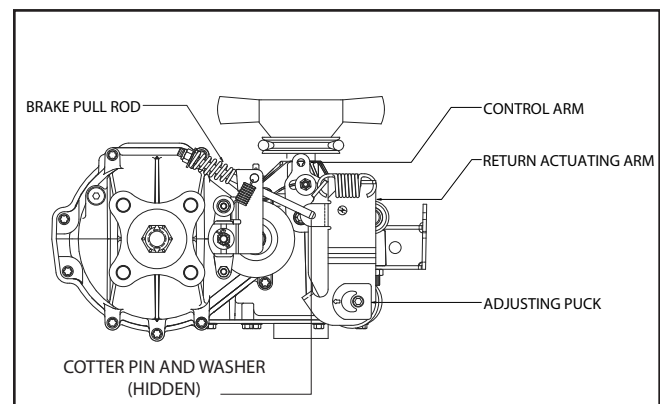

Figure 4. Return to Neutral, Hand Control
2. Remove the Original Equipment Manufacturer's (OEM's) control linkage at the control arm. Refer to Figure 4.
3. Remove the cotter pin and washer securing the brake pull rod to the return actuating arm. Remove the brake pull rod from the return actuating arm. Refer to Figure 4.
6. Stop the vehicle engine. Adjust the OEM linkage according to the OEM manual. Re-check according to step 4 and 5. Stop the vehicle engine. Replace the brake pull rod onto the return actuating arm. Install the washer and a new cotter pin securing the brake pull rod to the actuating arm. Refer to Figure 4.
7. Note the axle directional movement. Stop the vehicle's engine. Loosen the adjusting puck screw until the puck can be rotated. Rotate the adjusting puck the opposite direction of the wheel rotation on the control linkage side in 5 degree increments. Tighten the adjusting puck screw. Refer to Table 5. Required Torque Values, Page 13. Recheck according to step 4 and 5. Stop the vehicle engine. Adjust the OEM linkage according to the OEM manual. Recheck according to Step 4 and 5. Stop the vehicle engine. Replace the brake pull rod onto the return actuating arm. Install the washer and a new cotter pin securing the brake pull rod to the actuating arm. Refer to Figure 4.